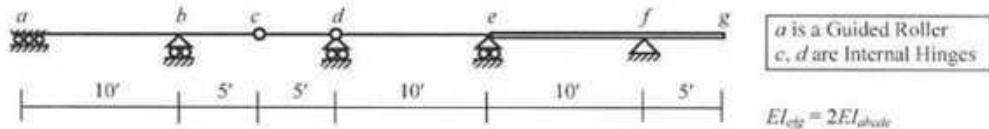

Fig. 9
10. For the beam  $abcdefg$  shown in Fig. 9, draw the qualitative influence lines of support reactions  $R_a$ ,  $R_c$ , shear forces  $V_{b(l>eft)}$ ,  $V_{b(l<right)}$  and bending moments  $M_a$ ,  $M_c$ ,  $M_f$ .
11. For the beam  $abcdefg$  shown in Fig. 9, calculate the maximum value of  $R_d$  (reaction at support  $d$ ) for a uniformly distributed dead load of 1 k/ft, a moving uniformly distributed load of 0.5 k/ft and a moving concentrated load of 5 k.